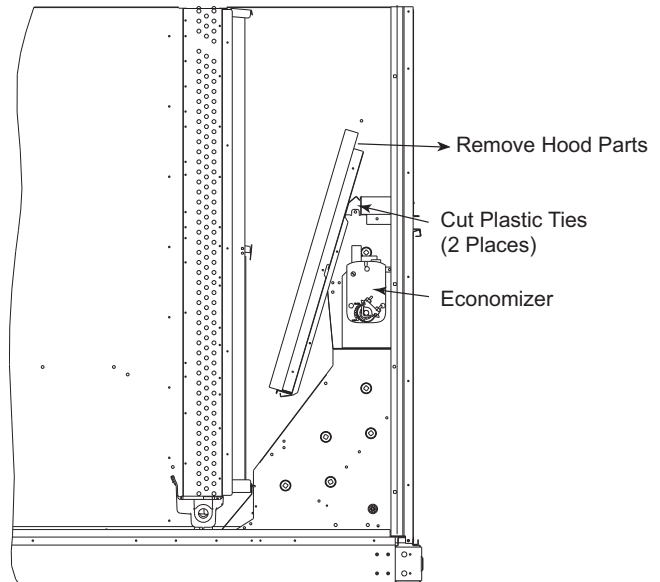

Fig. 15 — Economizer Hood Package Location
2. Locate and cut the 2 plastic tie-wraps, being careful to not damage any wiring. See Fig. 15.